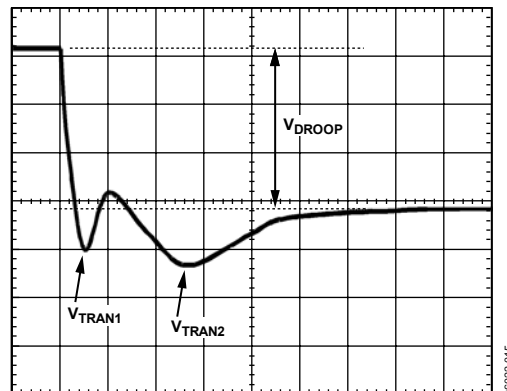
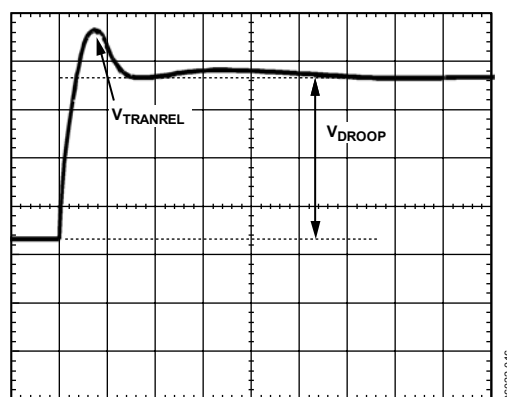

Figure 15. Transient Setting Waveform
Figure 16. Transient Setting Waveform
18. With the dynamic load still set at the maximum step size, expand the scope time scale to see 2 $\mu\text{s}/\text{div}$ to 5 $\mu\text{s}/\text{div}$. The waveform may have two overshoots and one minor undershoot (see Figure 15). Here, V_{DROOP} is the final desired value.
20. For load release (see Figure 16), if $V_{TRANREL}$ is larger than V_{TRAN1} (see Figure 15), there is not enough output capacitance. Either more capacitance is needed or the inductor values need to be smaller. If inductors are changed, start the design again using the spreadsheet and this tuning procedure.